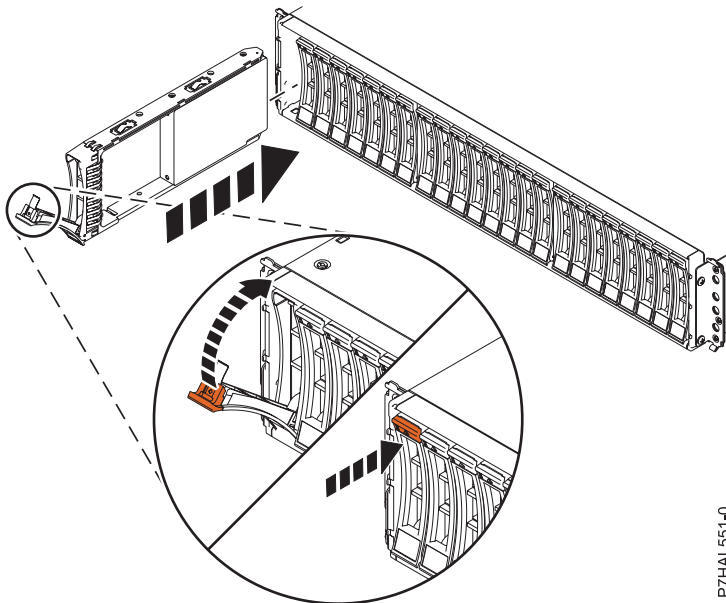

Figure 7. Installing the disk drive in the 5887 disk drive enclosure
- With the handle in the unlocked position, see Figure 7 on page 14, support the bottom of the drive as you align it with the guide rails in the expansion unit.